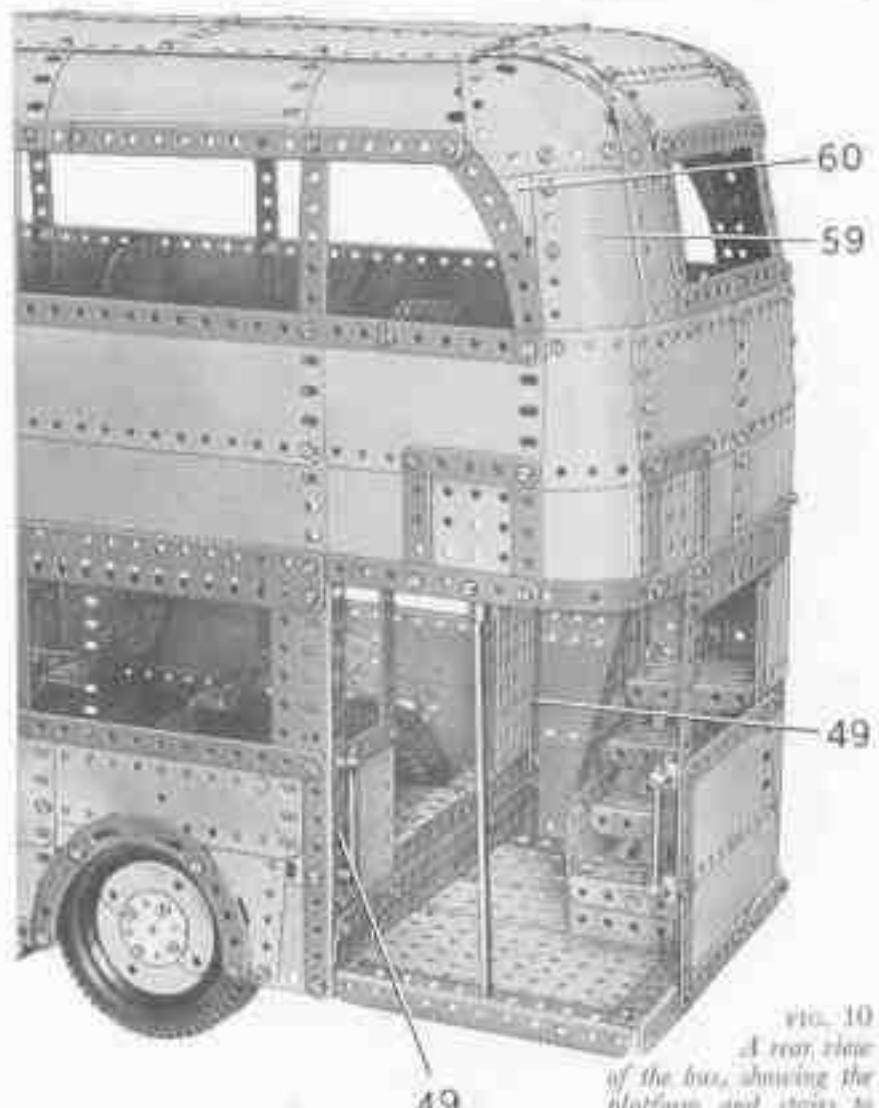

FIG. 10
two 5 $\frac{1}{2}$ " x 2 $\frac{1}{2}$ " Flexible Plates edged by Strips (Fig. 10) and connected to a 5 $\frac{1}{2}$ " Flat Girder by two vertical 5 $\frac{1}{2}$ " Strips that form the sides of the rear window frame.
The upper panelling at the rear of the body is completed by a 4 $\frac{1}{2}$ " x 2 $\frac{1}{2}$ " Flexible Plate (59) (Fig. 10), a 5 $\frac{1}{2}$ " x 1 $\frac{1}{2}$ " Flexible Plate and a 3 $\frac{1}{2}$ " x 2 $\frac{1}{2}$ " Triangular Flexible Plate. On the near side a 2 $\frac{1}{2}$ " x 1 $\frac{1}{2}$ " Triangular Flexible Plate (60) is bolted in position, but on the off-side this is replaced by a 3 $\frac{1}{2}$ " x 1 $\frac{1}{2}$ " Triangular Flexible Plate. The plating above the rear window of the upper saloon consists of two 4 $\frac{1}{2}$ " x 2 $\frac{1}{2}$ " Flexible Plates and two 2 $\frac{1}{2}$ " x 1 $\frac{1}{2}$ " Flexible Plates.